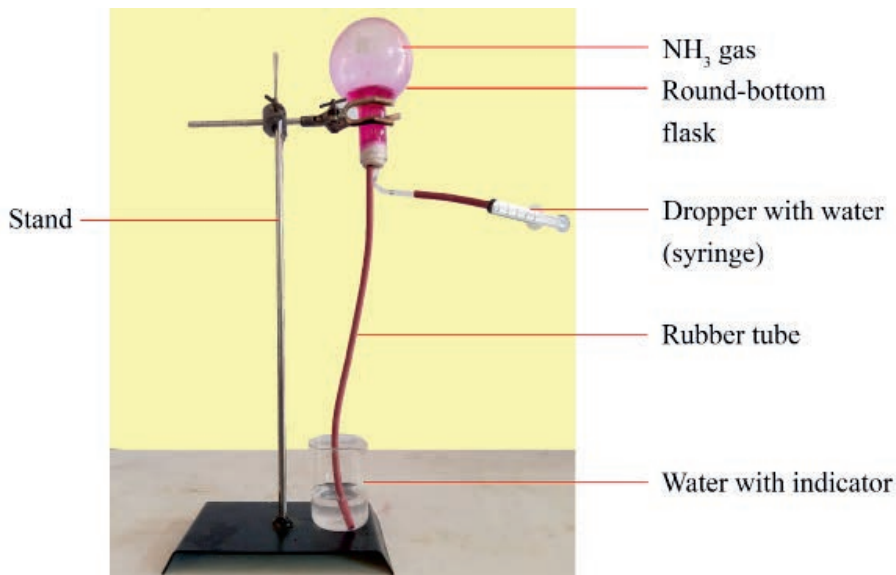

Figure 3.6b: Set-up of ammonia fountain demonstration Experiment
(II) Demonstration (**Figure 3.6b**)